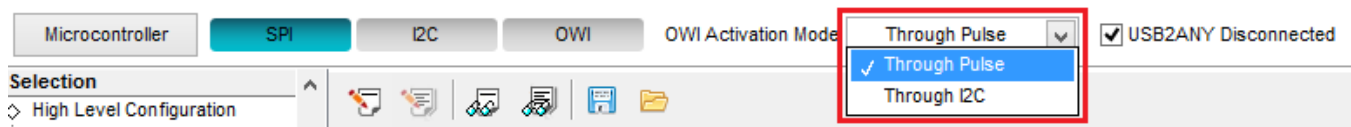

Figure 2-5. OWI Activation Mode
- When using the OWI, the user can select the activation mode from one of the following options (also shown in Figure 2-5).